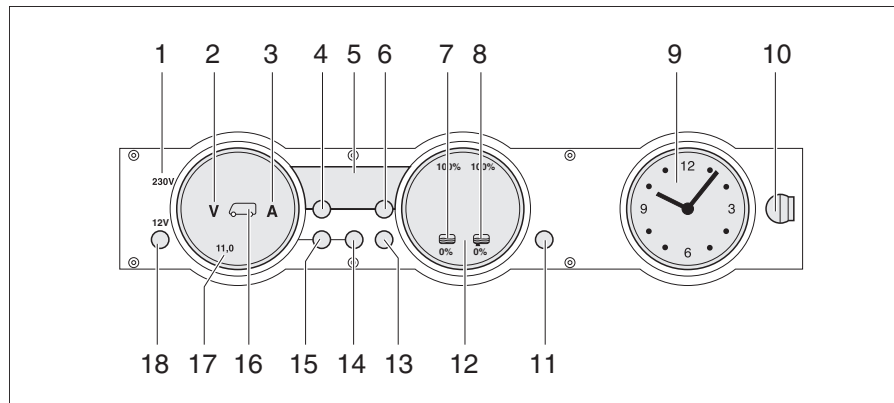

Fig. 249 Panel MP 20-T
The 230 V indicator lamp (Fig. 249,1) lights up whenever line voltage is available at the transformer/rectifier input.
The 12 V main switch (Fig. 249,18) switches the panel and the 12 V power supply of the living area on and off.
- Briefly press the "12 V" button (Fig. 249,18). The 12 V living area power supply is switched on. The "12 V" indicator lights up.
- ▷ If, after switching on, the "11.0" LED of the volt indicator and the "V" volt symbol (Fig. 249,2) in the batteries gauge (Fig. 249,17) flash, the voltage of the living area battery is too low. Charge battery.
- ▷ If, after switching on, the "12 V" indicator, the symbol for the living area battery (Fig. 249,16) and the "V" volt symbol (Fig. 249,2) flash three times, battery separation is activated. Deactivate battery separation.
- Briefly press the "12 V" button (Fig. 249,18). The 12 V living area power supply is switched off. The "12 V" indicator goes out.
- Press button for living area battery (Fig. 249,14) and hold it down for approx. 10 seconds. The "V" volt (Fig. 249,2) and "A" ampere (Fig. 249,3) symbols flash three times. The living area battery is disconnected from the 12 V power supply.
- Press the "12 V" button (Fig. 249,18) and hold it down for approx. 5 seconds. The "V" volt symbol (Fig. 249,2) flashes three times. The living area battery is connected to the 12 V power supply. The indicator lights up after approx. 2 seconds.
- Press button for living area battery "⏏" (Fig. 249,14). The "V" volt symbol (Fig. 249,2) lights up. Depending on whether the battery is being charged or discharged, the "A" ampere symbol lights up white or red respectively. The battery voltage and current of the living area battery are displayed using the LEDs in the gauge.
- Press button for starter battery "⏏" (Fig. 249,15). The "V" volt symbol (Fig. 249,2) lights up. The battery voltage of the starter battery is displayed using the LEDs in the gauge.
- Press the tanks button " (Fig. 249,13). The water tank " (Fig. 249,7) and waste water tank " (Fig. 249,8) symbols light up. The fill level of the water tank (left-hand scale) and the waste water tank (right-hand scale) are indicated using the LEDs in the gauge.
The "V" volt symbol (Fig. 249,2) and the "11.0" LED flash as soon as the battery voltage falls below 11 V (measured during operation) and there is the threat of a total discharge.
The water tank symbol  (Fig. 249,7) or waste water tank symbol  (Fig. 249,8) flashes when the water tank is empty or the waste water tank is full.